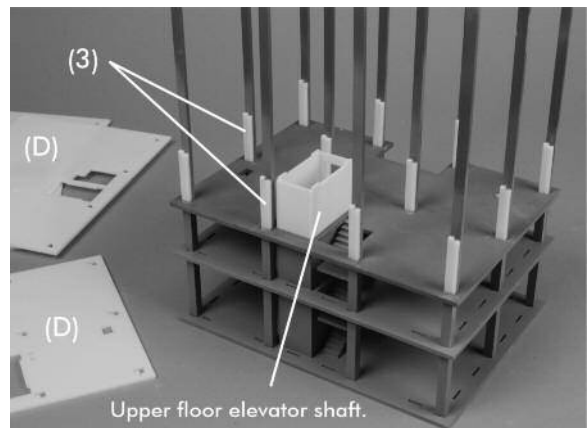

Figure 13
Glue a part (3) to each of the long columns with the tab located in the slot on part (C). See Figure 13 for proper orientation and location
Glue an upper elevator shaft to part (C). See Figure 13.